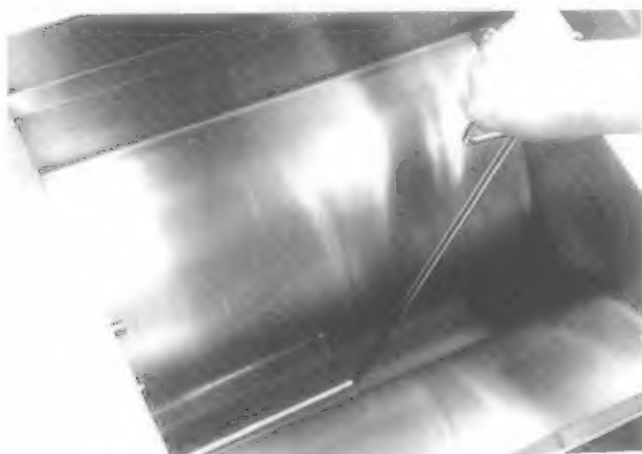

Fig. 5
- d. If the drain valve becomes clogged with food particles, you may wish to use the Fryer's Friend (poker-like tool). Use this tool from the inside of the frypot ONLY. See Figure 5. Carefully grip the tool as far as possible away from the shortening in the frypot. DO NOT hammer on the drain valve, this damages the drain valve ball. DO NOT insert the tool into the front of the drain to